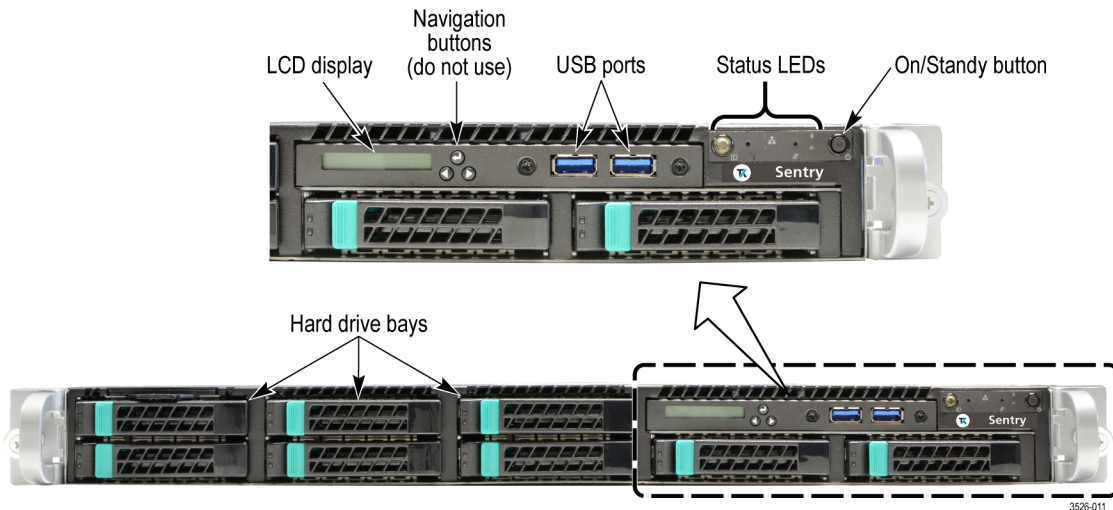

Figure 1: Front panel controls
2. Push the On/Standby button on the instrument front-panel and the instrument will turn on. (See Figure 1 on page 9.)